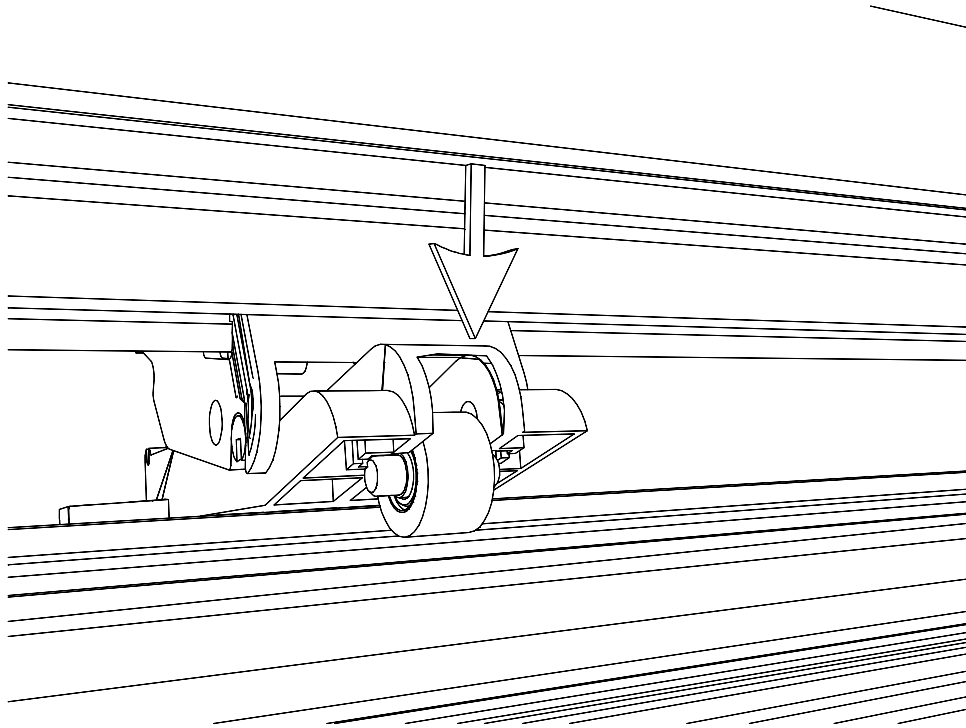

Fig. 14 - Snap the wheel in place.
- 3) Raise the wheel housing again, and place the wheel into place. Snap the wheel, pin, and washers into the pinch wheel assembly. *See Fig 14.*